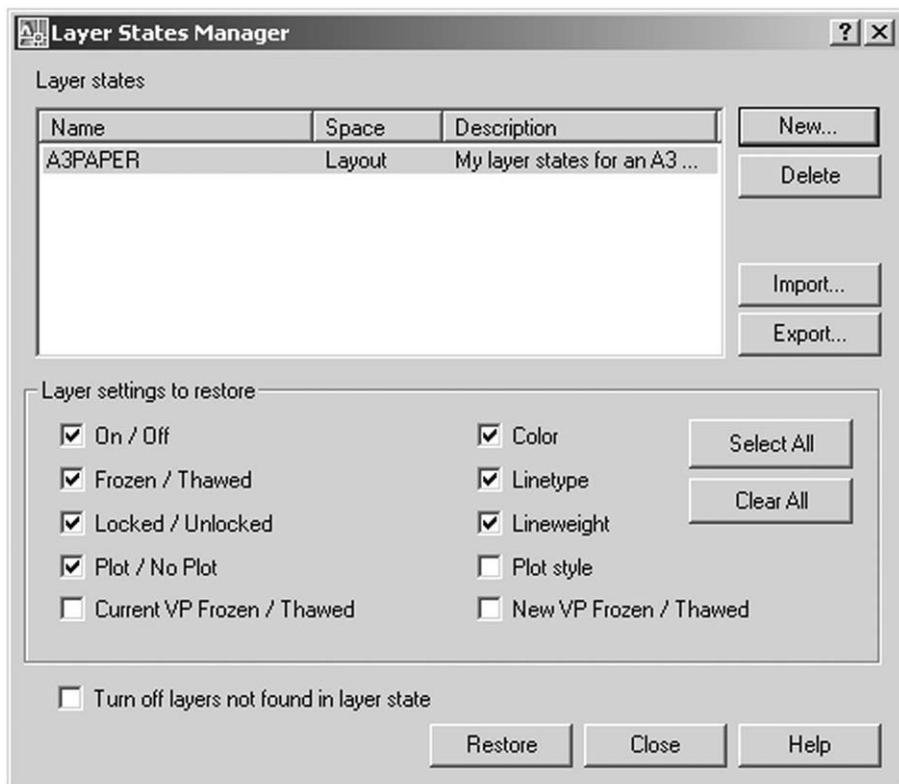

Figure 10.8 The Layer States Manager dialogue box with settings for the A3PAPER sheet.
b) dialogue box as Figure 10.8